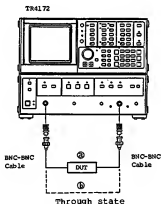

Fig. 5-1 Connecting the TR4172 and the Xtal filter
- (1) As shown in Figure 5-1, insert a DUT (filter) between the TR4172 TRACKING GENERATOR OUTPUT connector and the INPUT connector. This state of connection is called (a). The state of the two connectors being kept through with the DUT removed is called (b).
- ① Set up the analyzer for 70 MHz center frequency, 100 kHz frequency span, 0 dBm reference level, and 10 dB input attenuator. (Note)
- ② Activate the tracking generator output and check the T.G. output level with the DUT disconnected as shown in Figure 5-1. (b). The T.G. output level should be 0 dBm when the input attenuator is set 0 dB.
- ③ Connect the DUT as shown in Figure 5-1 (a). The insertion loss of the DUT is now read as the level difference between the marker point and display line.